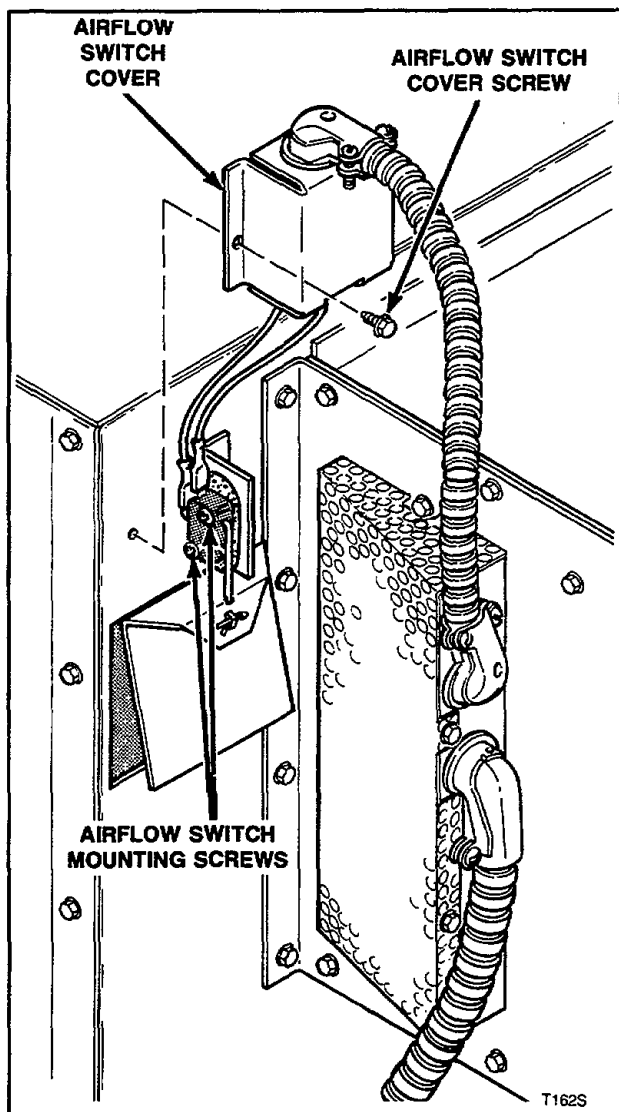

Figure 19
**24. AIRFLOW SWITCH (Figure 19)**